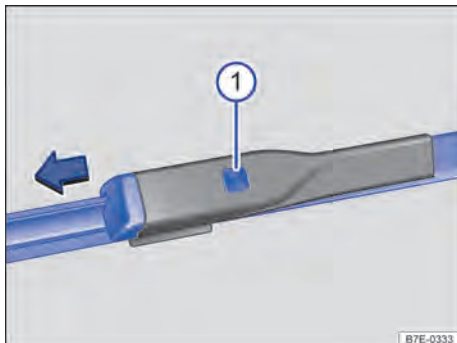

Fig. 169 On the windscreen: changing the windscreen wiper blades
① Release button.
3. Press and hold the release button and simultaneously pull off the wiper blade in the direction of the arrow → Fig. 169 ①.